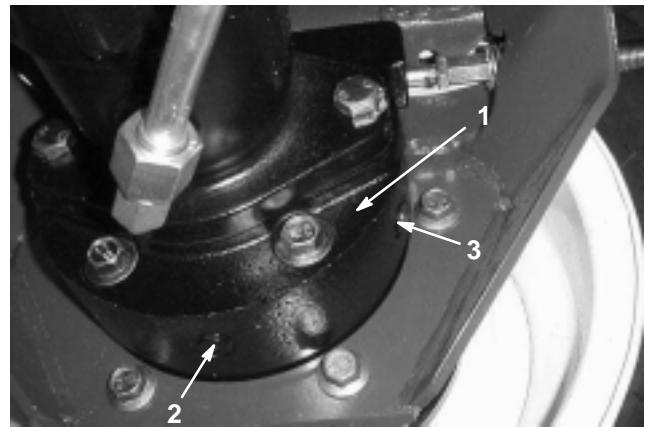

Figure 49
3. Place another drain pan under the brake housing on the other side of the wheel (Fig. 49).